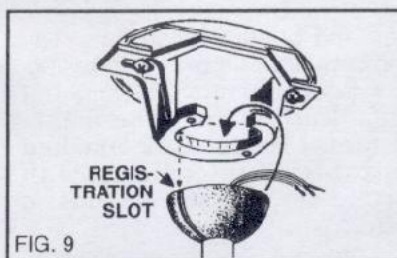

FIG. 9
**Step 6.** Now lift the motor assembly into position and place the downrod ball into the hanger bracket. Rotate until the check groove has dropped into the registration slot and seats firmly. Rod should not rotate if this is done correctly. (Fig. 9)